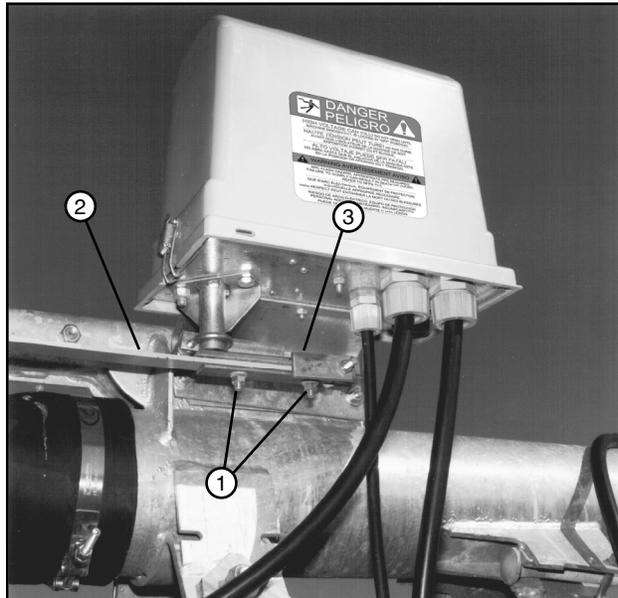

Figure 82-1 1. Hardware
1. Loosen the hardware securing control bar to the switch pivot arm. See Figures 82-1 and 82-2.
2. Adjust the jam nuts clockwise or counter-clockwise no more than 1/4 of a turn at one time. See Figures 82-1 and 82-2, and the adjustment chart below.